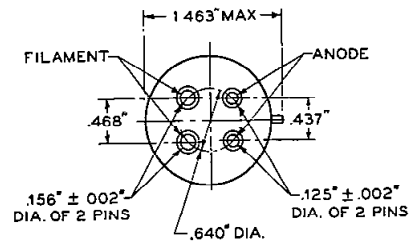

FIG. 2
**Mounting**—Large four-pin bayonet base for use in a V. E. 113A or similar socket, for either vertical or horizontal mounting. If mounted horizontally the plane of the filament, which is indicated in Figure 2, should be vertical.